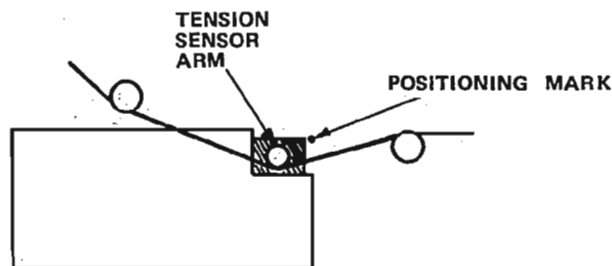

Figure 12. Positioning Tension Sensor Arm
1. While holding the takeup reel securely, energize the machine and adjust supply stop tension potentiometer R3 until the edge of the tension sensor arm just lines up with the center-punch mark on the transport deck (Figure 12), indicating 10 ounces of supply tension.
2. Push the PLAY button while holding the takeup reel securely, and adjust play supply potentiometer R2 until the tension sensor arm lines up with the center punch mark (Figure 12). Now release the takeup reel and adjust play takeup potentiometer R5 until tensions are approximately equal on both reels.